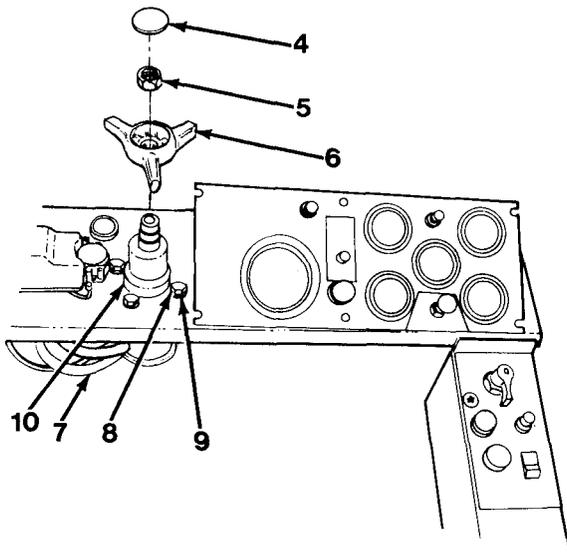

Figure 13-2
3. Remove steering wheel cap (4), nut (5) and steering wheel (6, Figure 13-2).
1. Position control unit (10, Figure 13-2) under dash and align mounting holes.
2. Install four lockwashers (9) and capscrews (8).
3. Connect five hoses (7) on control unit (10).
4. Install steering wheel (6), nut (5) and cap (4).